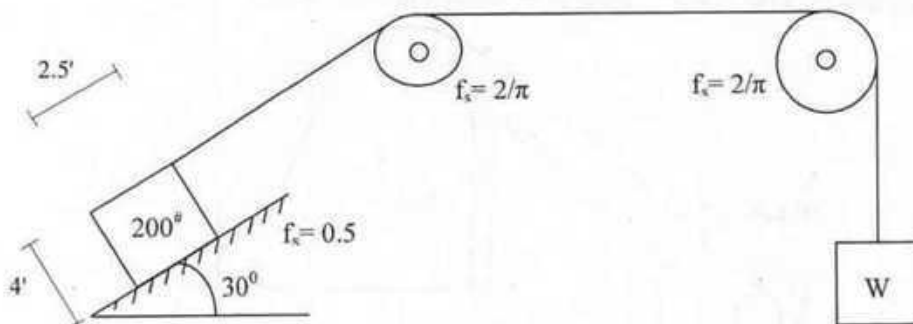

FIGURE 3
3. What is the minimum load W that can be supported by the system shown in FIGURE 3. (10)